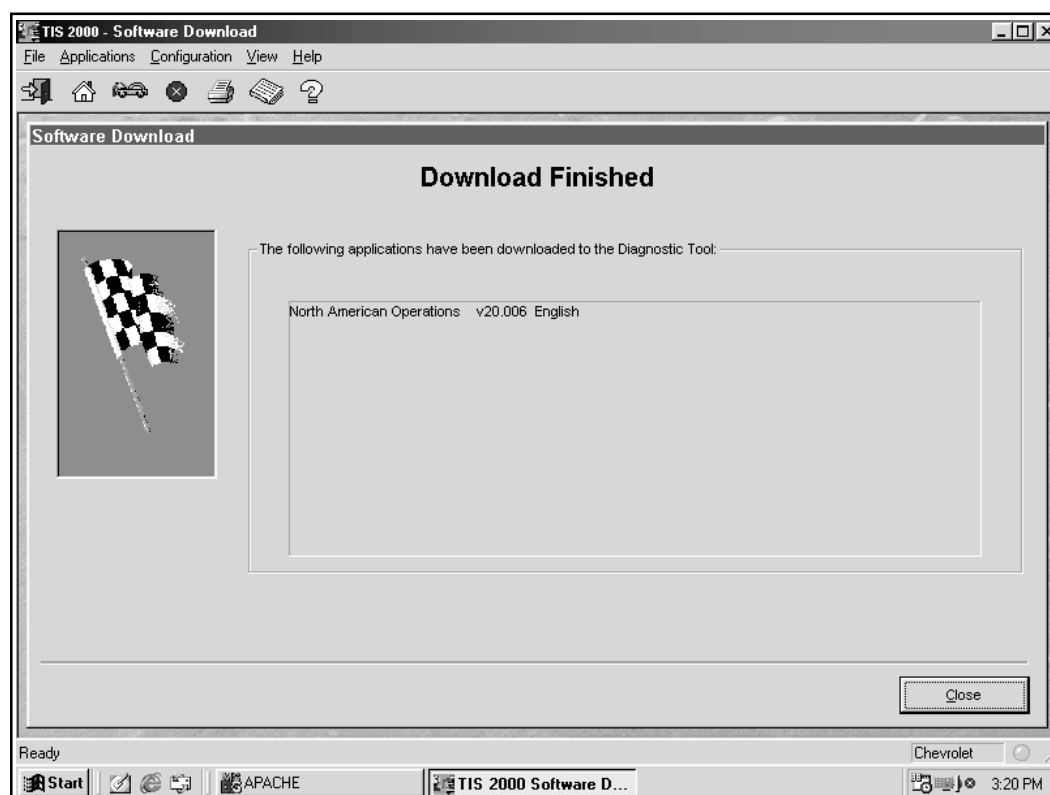

Figure I-59, Download Finished
8. When the download is complete, a **Download Finished** screen appears (Figure I-59). Select **Close** to close the application. The scan tool now contains the latest software.